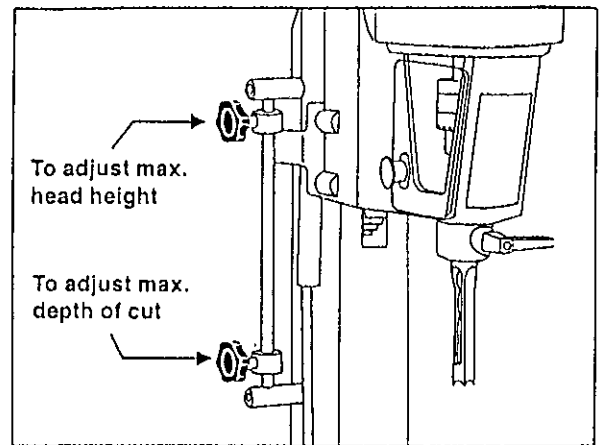

Fig.3
1. Depth stop must be set to the required depth of cut (Fig.3).